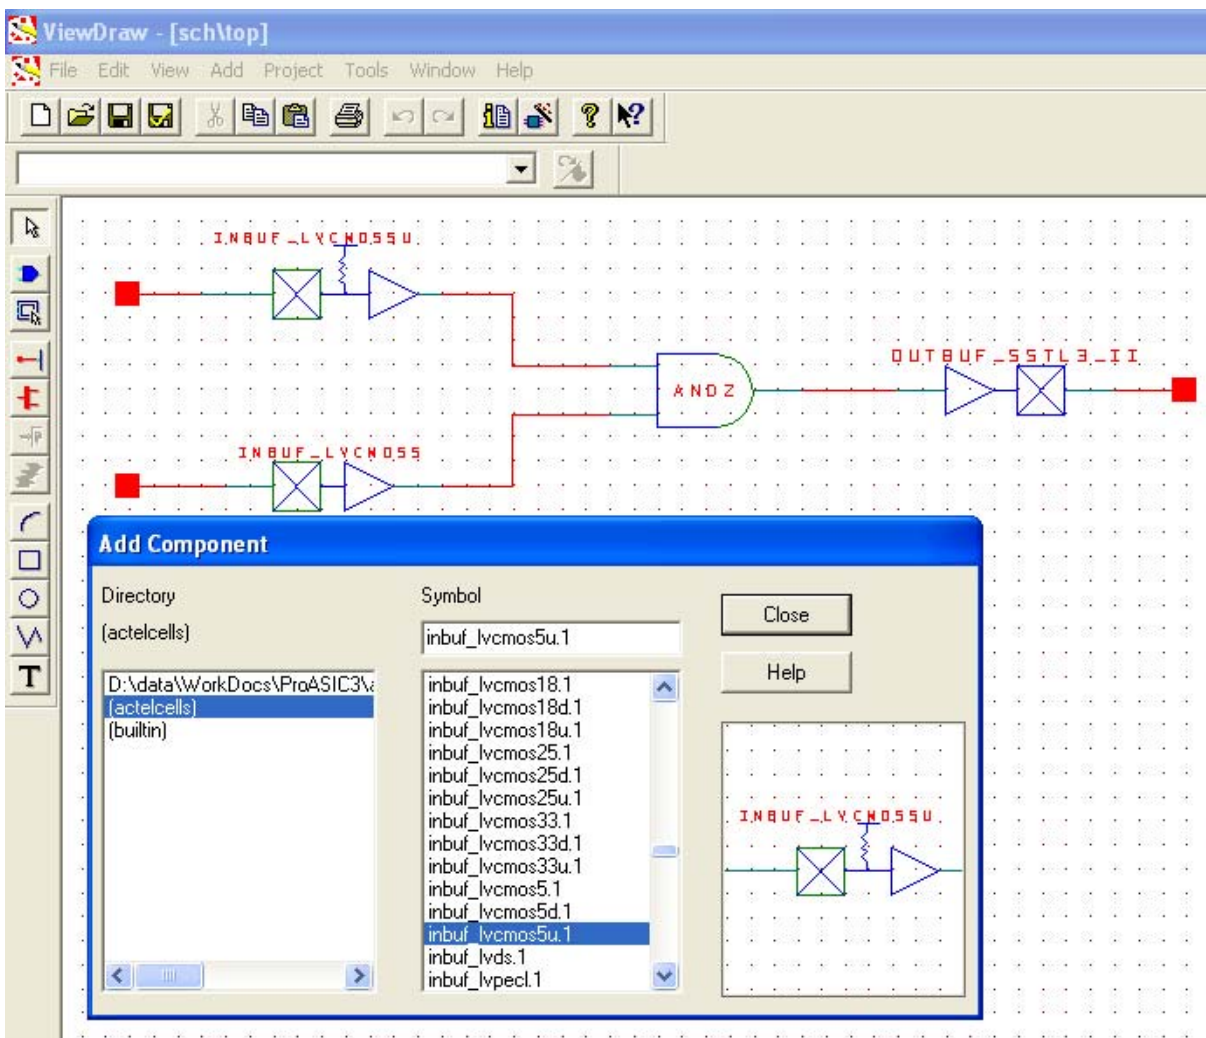

Figure 8-6 • I/O Buffer Schematic Cell Usage
6. Enter a name for the macro. Click **OK**. The core will be generated and saved to the appropriate location within the project files (Figure 8-6 on page 8-7).
Libero IDE includes the ViewDraw schematic entry tool. Using ViewDraw, the user can insert any supported I/O buffer cell in the top-level schematic. Figure 8-6 shows a top-level schematic with different I/O buffer cells. When synthesized, the netlist will contain the same I/O macro.